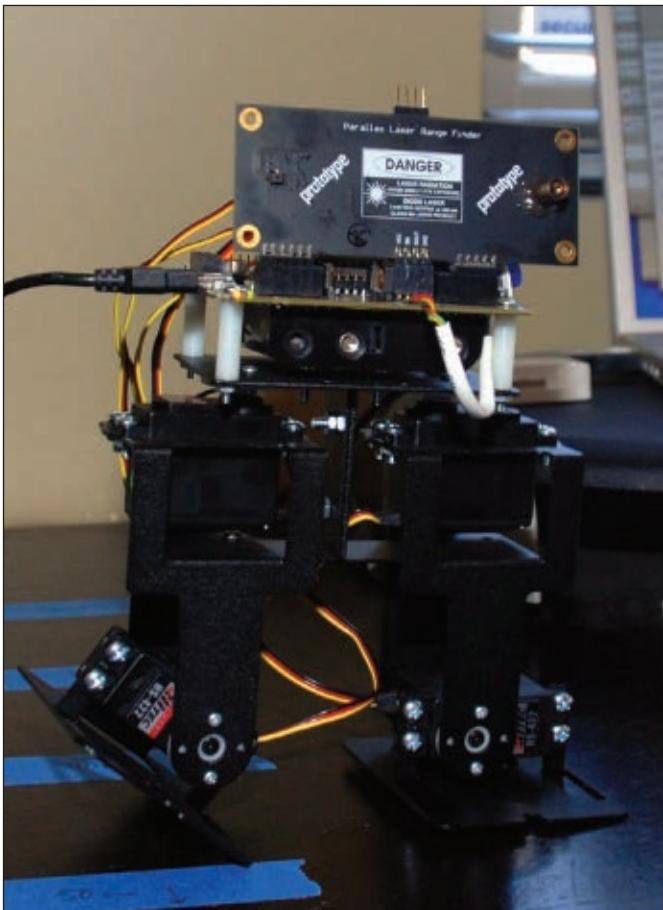

FIGURE 8. Demo – FSLBOT.
- **Proximity Sensing Robot.** Using Freescale's FSLBOT robot platform (<http://freescale.com/mechbot/>), the LRF module is mounted to the robot's head and interfaced directly to the MCF52259 ColdFire processor on the TWR-MECH board (**Figure 8**). The robot walks/waddles forward until it becomes too close to an object, then stops until the object goes away. Video: www.youtube.com/watch?v=bvmT9h9ghk0.